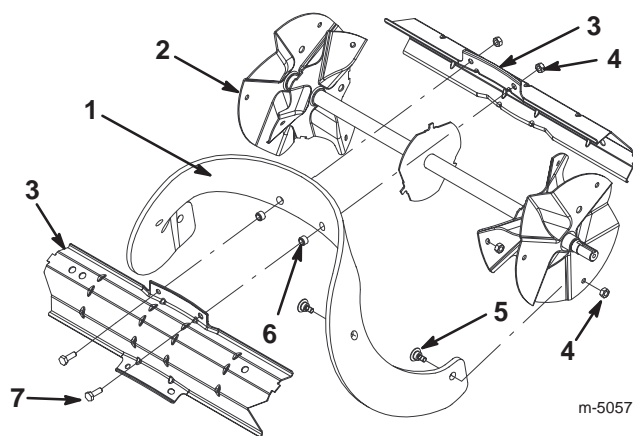

Figure 14
1. Remove the four torx screws and the four locknuts that secure the outer edges of the rotor blade to the rotor assembly (Fig. 14).
2. Remove the two hex-head cap screws and two locknuts that secure the center of the rotor blade to the rotor drum (Fig. 14).
3. Slide the rotor blade out from between the rotor drum parts (Fig. 14).
3. Secure the new rotor blade to the rotor drum parts with the two hex-head cap screws and two locknuts that you previously removed. Position the bolt heads on the thick rubber side of the rotor blade (Figs. 14 and 15).
4. Curve the new rotor blade and secure it with the remaining torx screws and locknuts, positioning the screw heads on the thick rubber side of the rotor blade (Figs. 14 and 15).